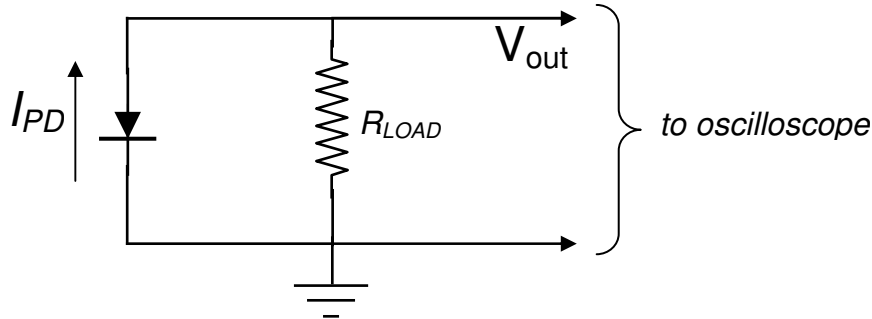

Figure 10.9: Photodiode with a resistive current-to-voltage converter.
The simplest way to read the current on a photodiode is to convert it to a voltage with a resistor as shown in figure 10.9 below. This circuit is very simple, but has the disadvantage that the resistor loads the photodiode which must produce a voltage across the resistor. The photodiode also has a capacitance proportional to its area which will also determine time response ($\tau = RC$): as this simple circuit makes clear, you cannot have high sensitivity and high speed at the same time.
2. Use an FDS100 Thorlabs photodiode to construct the circuit of figure 10.9 such that the current-to-voltage conversion is 10 mV/ μ A. Install the photodiode and the red LED in front of each other to maximize the amount of emitted light incident on the photodiode – ***fasten the photodiode and the LED securely so that they will not move. Also, you should make sure that the LED is not saturating the photodiode.*** Measure the rise time and fall time of the photo-current signal. You may increase the frequency on the function generator.